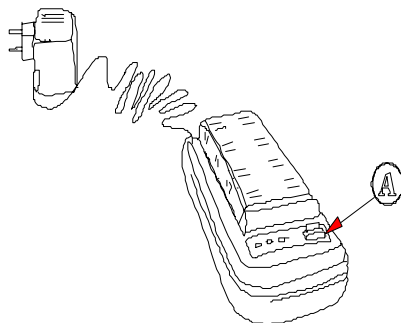

Figure 1.- CB-410 battery charger and mains adapter.
2. **Discharge the battery prior to carrying out the charging process** in order to eliminate any possible residual charge. In order to do so, press button A situated on the right (see figure 1). At this point, a small yellow light comes on and the process of discharging is under way. When discharging is completed, the charger automatically sets the process of charging underway.